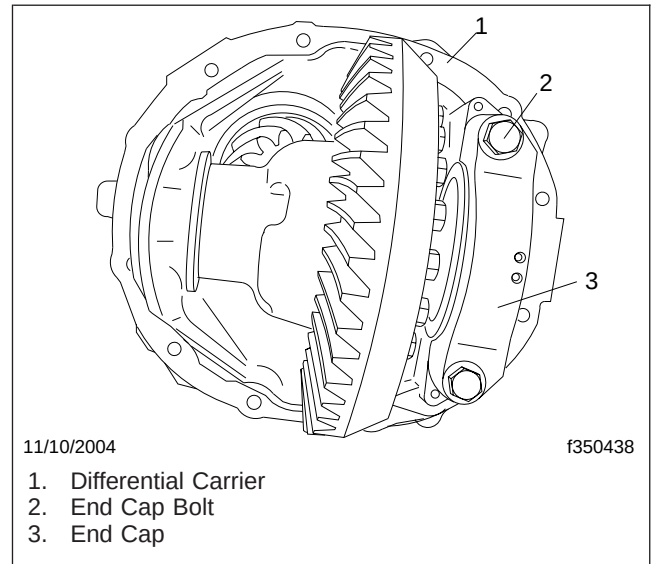

Fig. 2, Carrier End Caps
6. Install the end caps at the sides of the forward differential carrier into the corresponding slots in the axle housing. See Fig. 2.